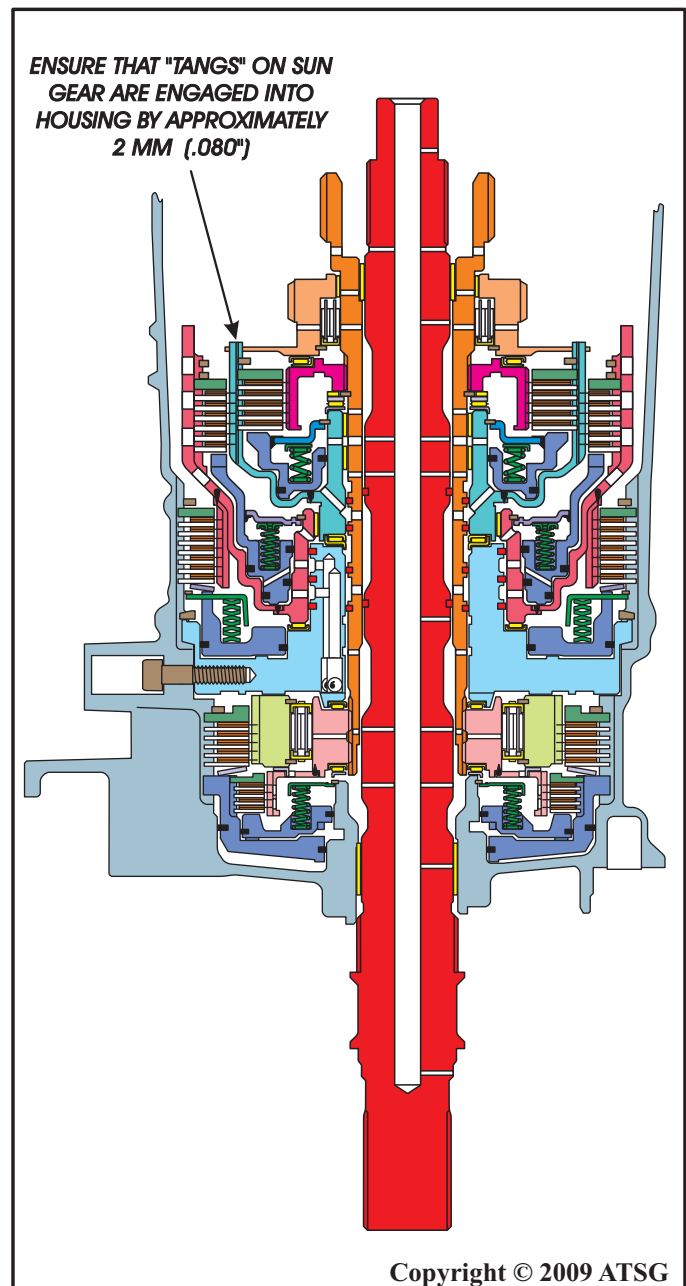

Figure 218
**Note:** Ensure that "tangs" on sun gear are engaged into high and low/reverse clutch housing by approximately 2 mm (.080"), as shown in Figure 218. This will ensure that sun gear shaft is fully seated.